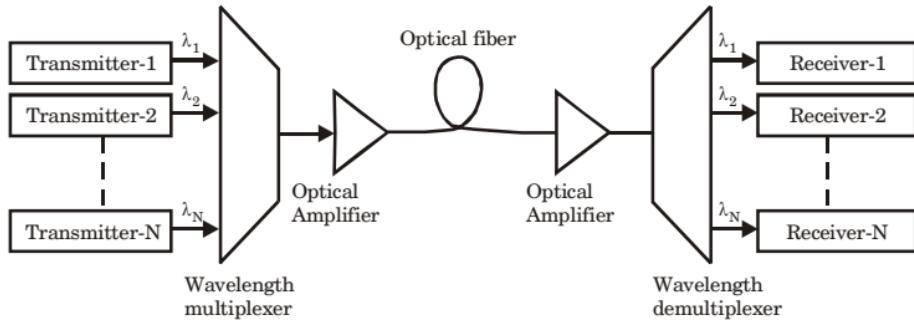

Fig. 14.
- Fig. 14 shows a typical WDM link. At the transmitting end, there are several independently light sources, each emitting signal at a unique wavelength.